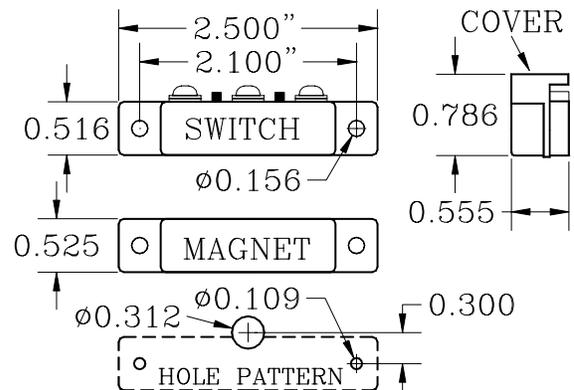

Figure 4.2 Magnetic Switch Dimensions
1. After choosing your location, following the hole pattern shown in Figure 4.2, drill two 7/64" (0.109) mounting holes in the doorframe to accommodate the Switch. This size hole also coincides with the self-tapping screws provided with the Switch. Be careful not to drill these holes oversize.